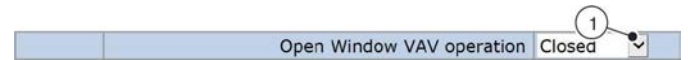

Fig. 58: Settings for an open window
This screen (Fig. 58) allows you to set the action for a zone module in case someone opens a window: either close the supply air damper blade or maintain normal ventilation.
- Select a setting for the supply air flow controller from the drop down list (Fig. 58 /1): either 'Closed' to close the controller, or 'Normal' for normal ventilation.